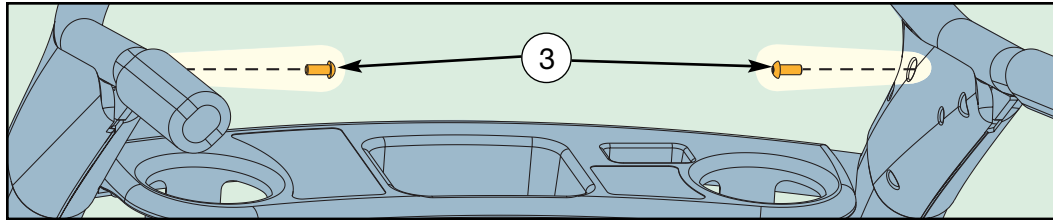

Figure 7
- A.** Using the hex key provided, secure the handrail with two 5-16-18 x 7-8 screws. See Figure 7. **NOTE:** You may need to lift the console slightly to line up the holes.